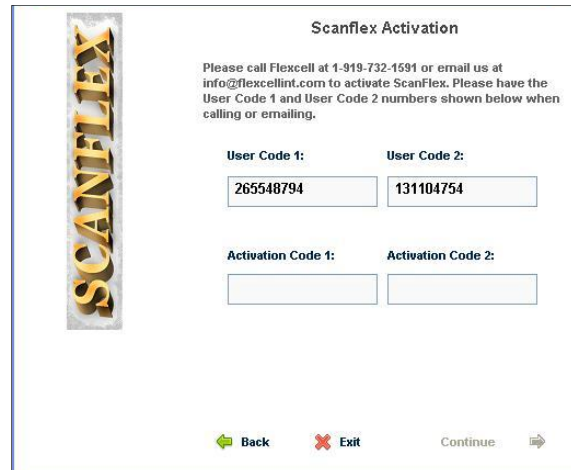

Figure 15. User code and activation code for ScanFlex™ activation.
3. If *ACTIVATION* is selected, two user codes will be displayed on the next screen (Fig. 15). Call (1-800-728-3714 or 919-732-1591) or email (activation@flexcellint.com) Flexcell® International with the user codes to obtain an activation code.